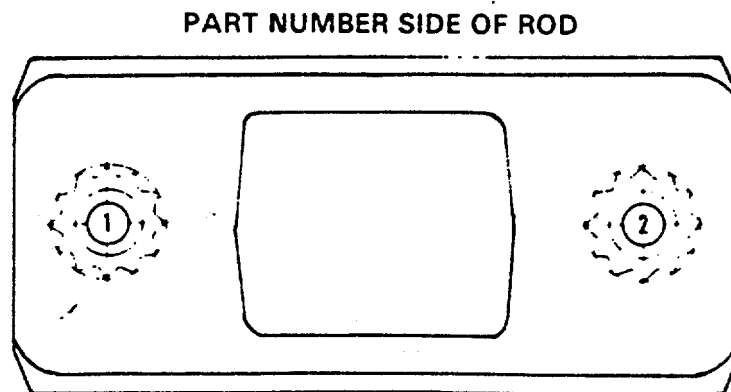

FIGURE 4-31. Connecting Rod Torque Sequence.
- (7) Inspect the connecting rod pin bushing bore and crankshaft bore.
- (a) Be sure to keep the connecting rod (1) and the cap together.
- (b) Assemble the rod (1) and tighten the machine bolts (10) to the correct torque in the correct sequence. Figure 4-31 shows the correct sequence, and Table 4-10 gives torque specifications.